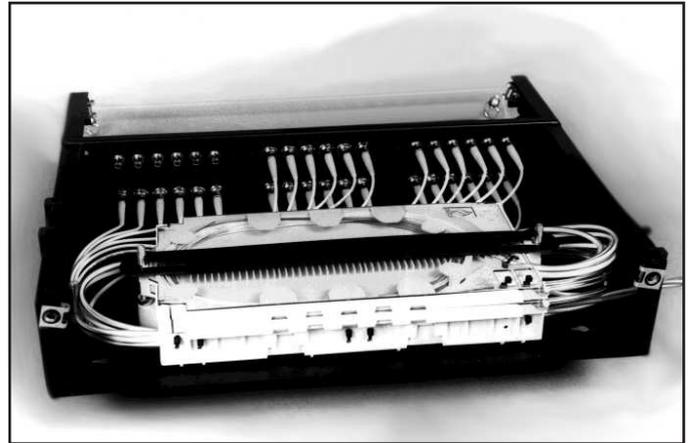

FIGURE 13 - SECURE SPLICE TRAYS WITH SPLICE TRAY HOLD DOWN STRAP
- 8.11 Secure Splice Trays in place with Splice Tray Hold Down Strap. (Figure 13)